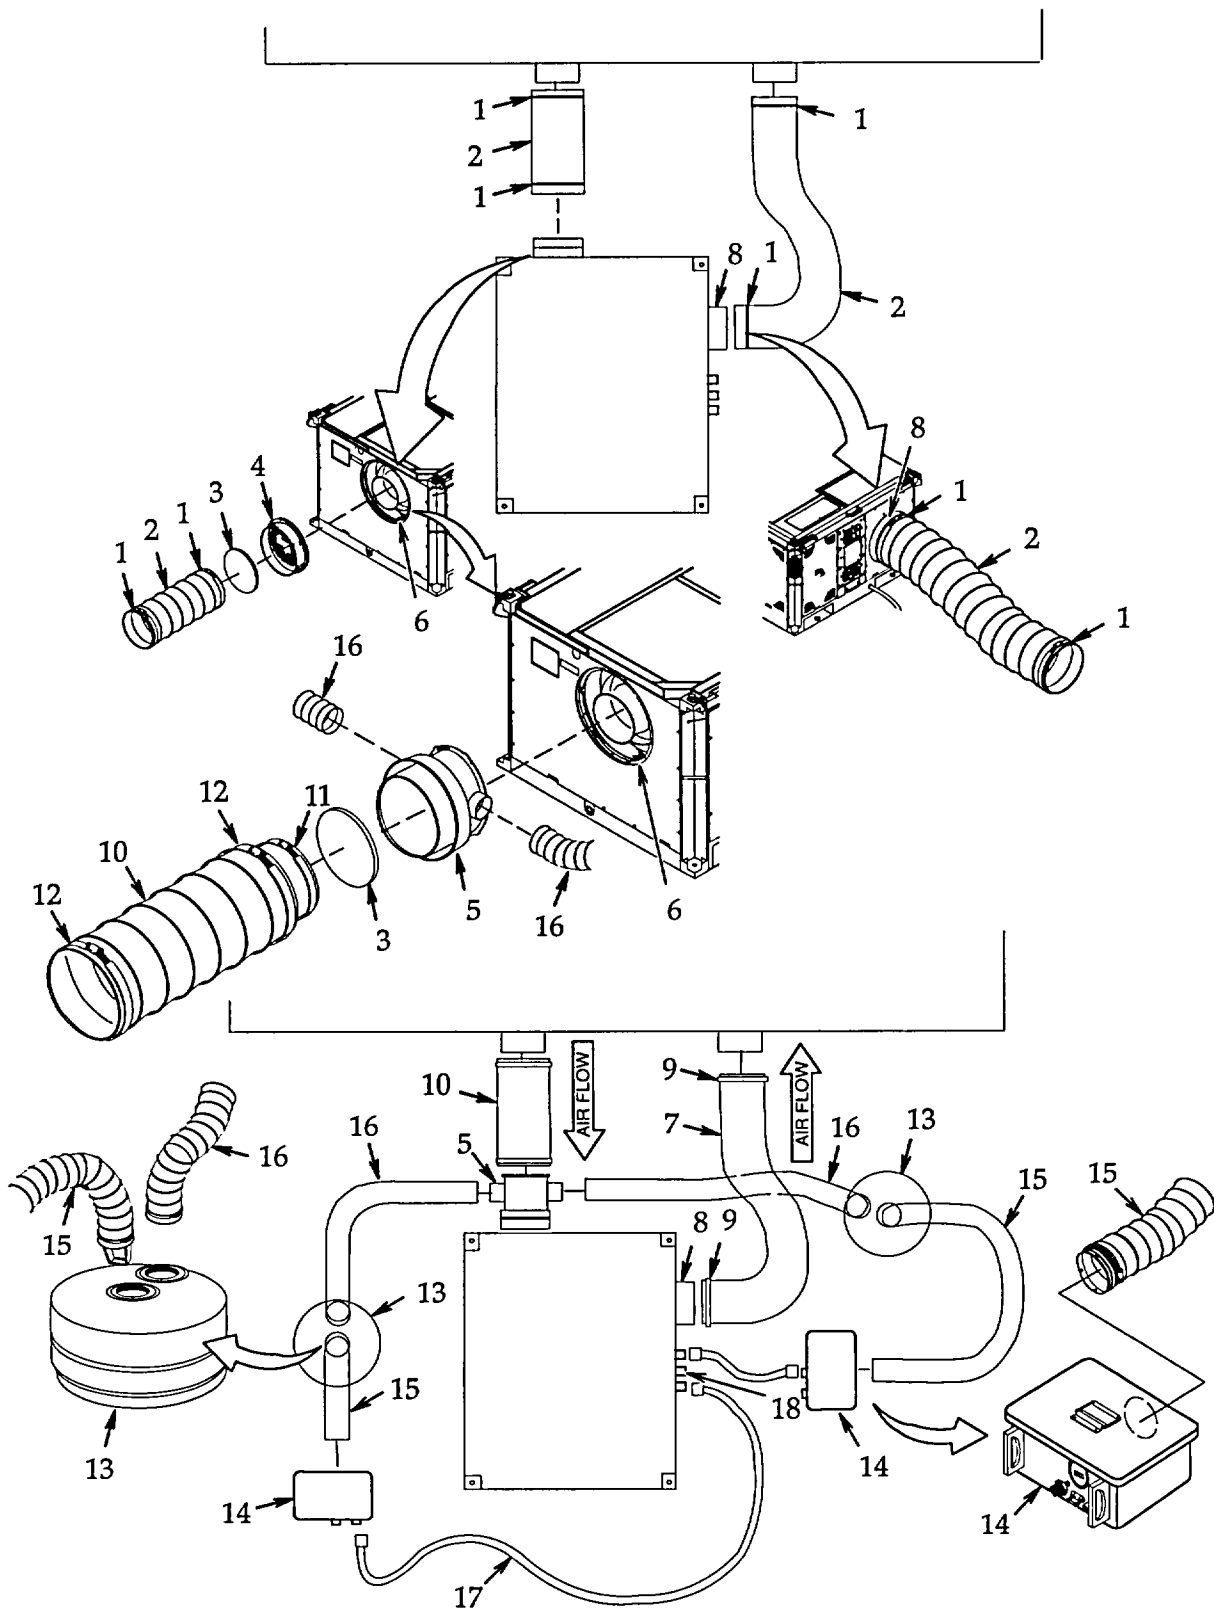

Figure 4-7. NBC Hardening.
4.4.7 NBC Hardening. See figure 4-7.